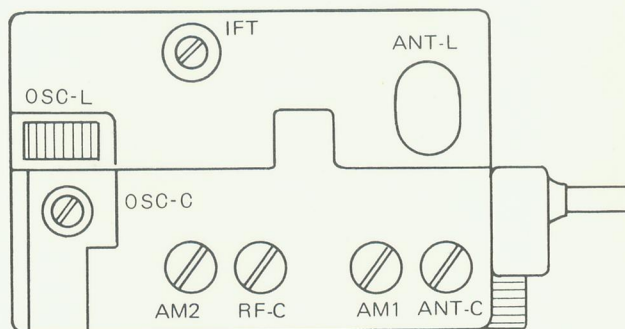
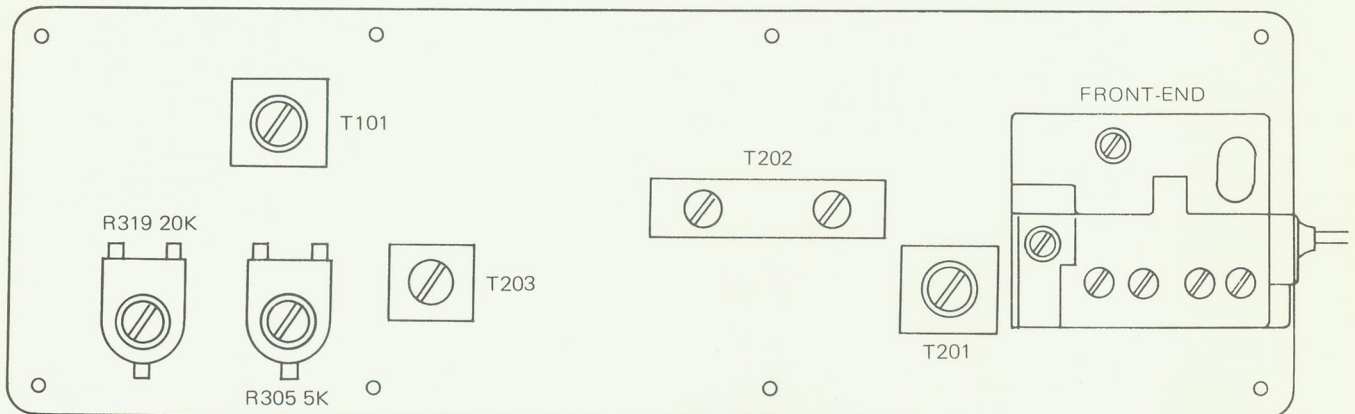

Fig. 2
Fig. 3 TUNER PCB ASS'Y BOARD
- (1) With no RF signal applied to the receiver, adjust the lower core of T101 until the pointer of the tuning meter (M1) on the receiver indicates the center position of the meter scale.
- (2) Apply RF signal to the receiver and adjust the tuning knob so that the tuning meter (M1) indicates the center position and the signal meter (M2) causes maximum deflection.
- (3) Under this condition, adjust the upper core of T101 for minimum distortion.
- (4) Repeat the above steps (1) through (3) two or three times so that the distortion factor is most improved.
- Note: For adjusting point, refer to Fig. 3.
The tuner section is provided with the pre-adjusted front end, eliminating the need for frequency coverage adjustment; however, the dial scale may be checked by adjusting OSC-C as necessary (see Fig. 2).
Note: For adjusting points, refer to Fig. 2.
Note: For adjusting points, refer to Fig. 3
Note: For adjusting points, refer to Fig. 3.
Note: For adjusting points, refer to Fig. 2. and Fig. 3.